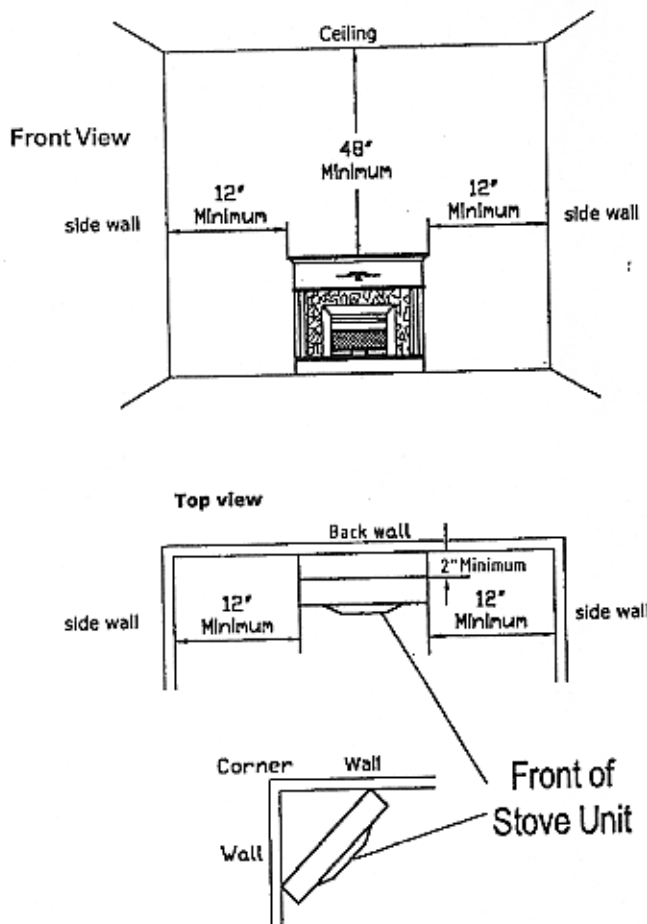

Figure 4 - Minimum Clearance to Wall and Ceiling
**IMPORTANT:** You must maintain minimum wall and ceiling clearances during installation. The minimum clearances are shown in Figure 4. Measure from outermost point of stove top.
## Minimum Wall and Ceiling Clearances (see Figure 4)